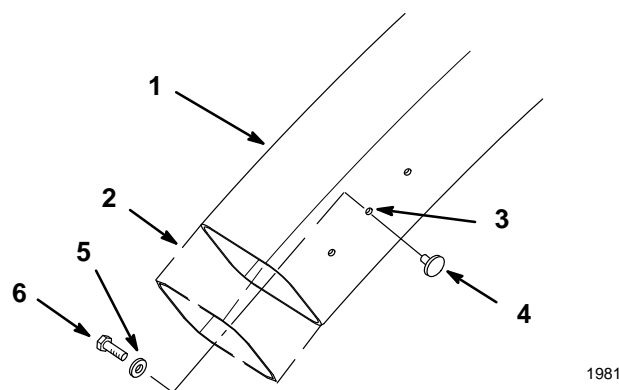

Figure 13
1. Cut 2-3/4" (7 cm) off the bottom of the discharge tube (Fig. 13).
2. Attach the knob to the center hole in the discharge tube and secure with 1/4" washer and #10-24 x 5/8" (16 mm) screw (Fig. 13).